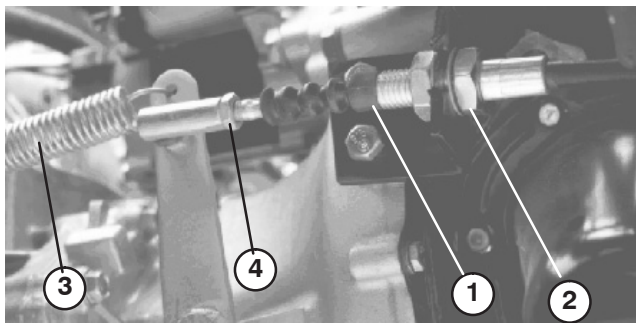

Figure 62
- Loosen the jam nuts securing the clutch cable to the bracket on the bell housing (Fig. 62).